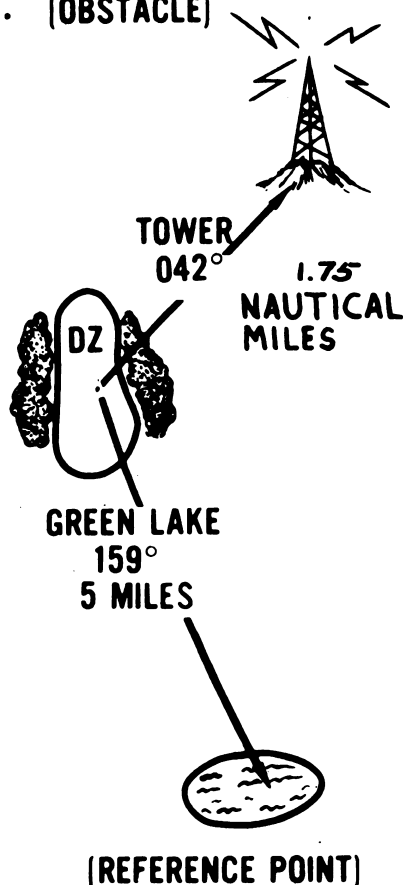

Figure 3. Reporting obstacles and reference points.
(3) Hills. Rising ground or hills of more than 1,000 feet/300 meters should normally be no closer than 2 nautical miles to the DZ. (In areas where the above criteria cannot be met, the deviation will be noted in the mission request and forwarded by the SFOB/FOB to the air support unit for decision/consideration.)
c. Obstacles. Due to the low altitudes at which operational drops are conducted, obstacles in excess of 300 meters above the level of the DZ and within a radius of 2 nautical miles must be identified. When operational drops are scheduled for altitudes of less than 400 feet, obstacles in excess of 30 meters must be identified (fig. 3).
(1) The most desirable shapes for DZs are square or round. The width of rectangular-shaped DZs should allow for minor errors in computation of wind drift. Minimum width for personnel drop is 305 meters.
(2) The required length of a DZ depends primarily on the number of chutes to be dropped and the length of their dispersion pattern.